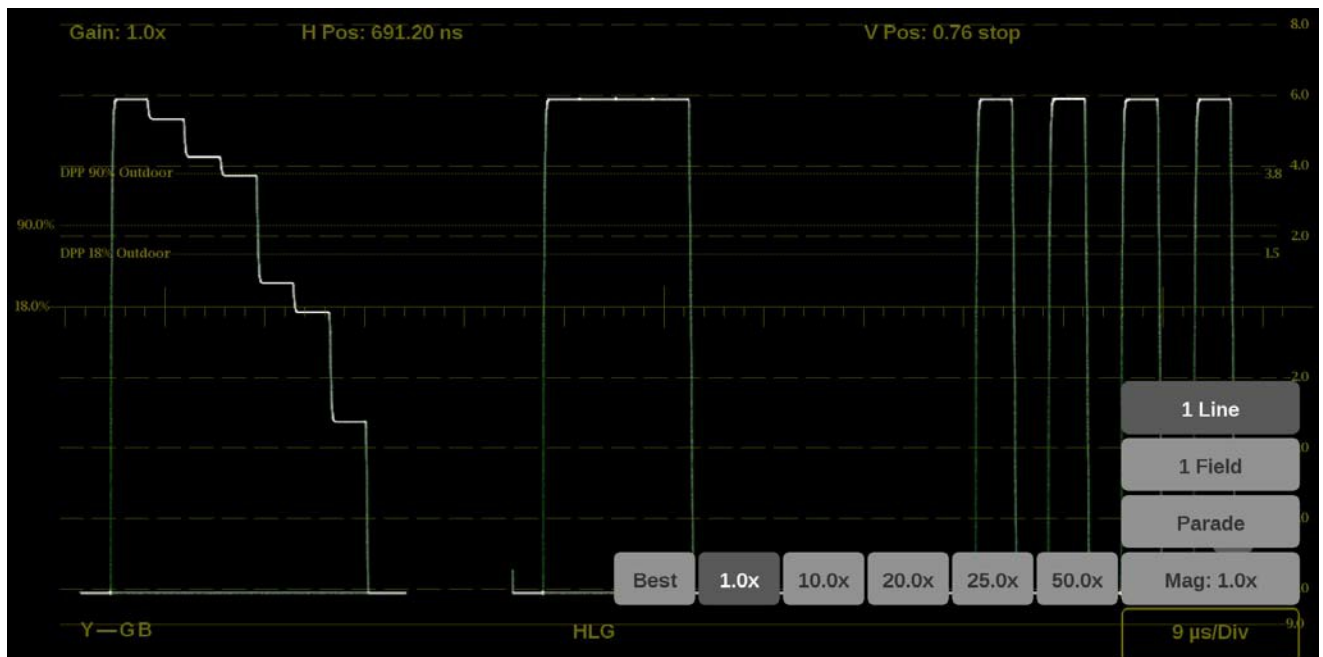

Figure 200: Stop Display on-screen tools – display format
1. Select the button in the bottom right corner of the application to expand the available display format options. (See Figure 200.)